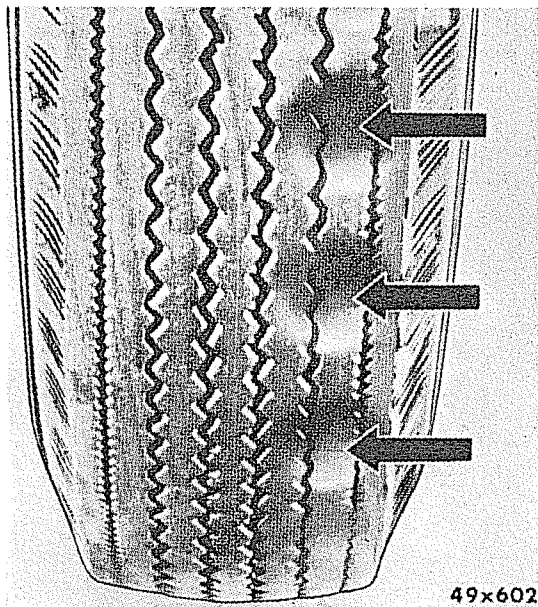

Fig. 17—Spotty Wear
- (a) Spotty wear occurs on front wheels, as shown in Figure 17. This condition does not progress to any great extent prior to 2,500 miles. This type of wear is the natural result of free rolling wheels and tyres. Wheel alignment or front wheel balancing will NOT correct this condition.